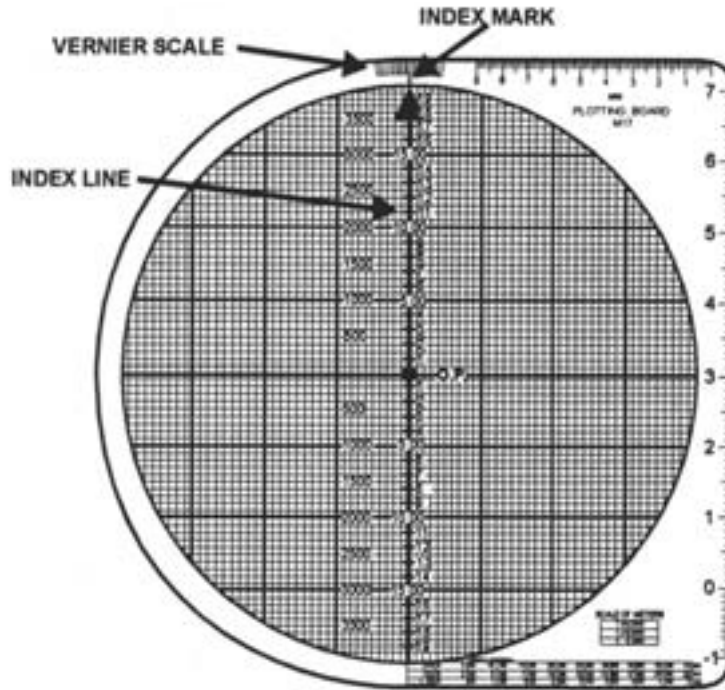

Figure E-2. Base.
a. Base. The base (see figure E-2) is square on one side and semicircular on the other. Printed on the base and directly under the disk is a circular area marked with a rectangular grid printed in red. Note the *red base index line with the arrow*. The index line is graduated outward from the center (pivot point) from 0 to 20 in hundreds of meters. These numbers are spaced